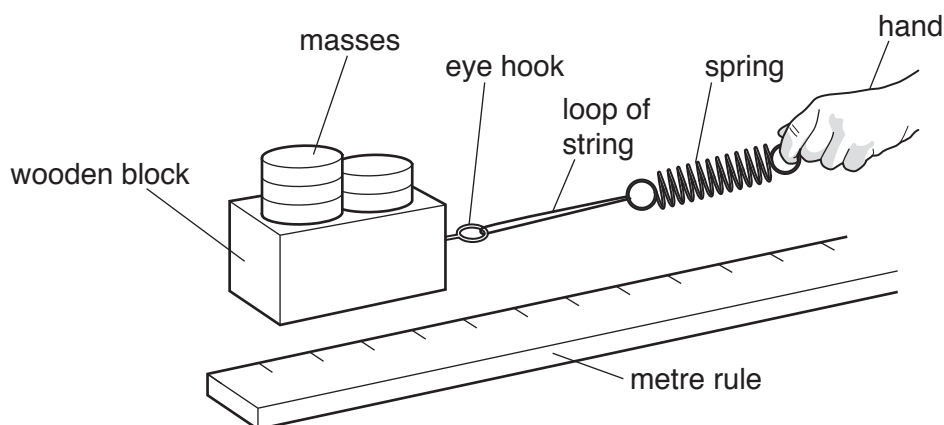

Fig. 1.1
2. The string should be approximately 20 cm long, 1.5 mm wide and made of cotton or nylon. The string should be tied in a loop to the loop of the spring at one end and to the hook on the wooden block at the other end, as shown in Fig. 1.1. The string should be strong enough to support a 0.5 kg load without breaking.
3. At the changeover, the Supervisor should ensure that the apparatus is restored to the arrangement shown in Fig. 1.1.